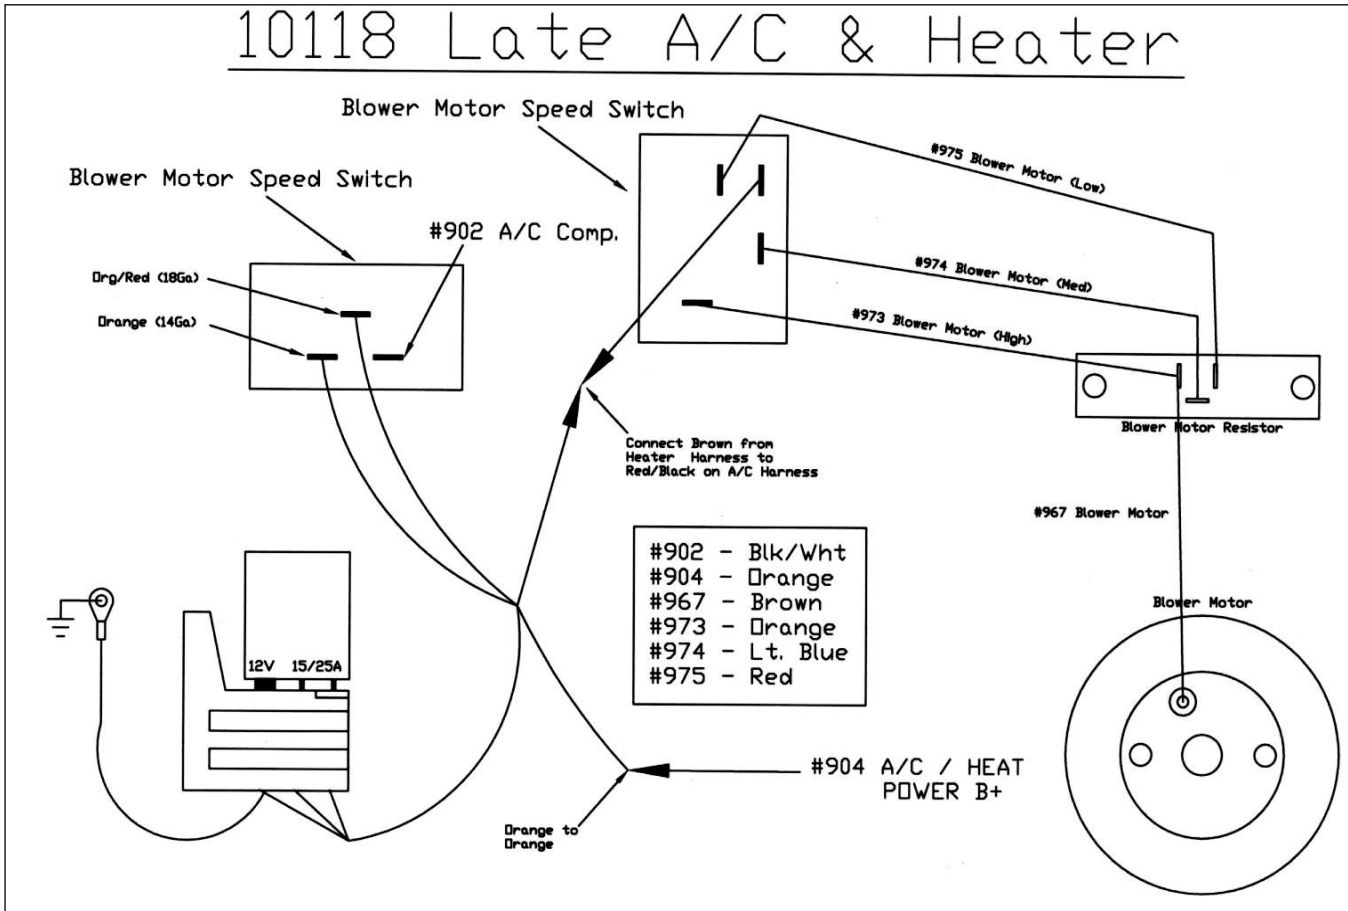

Figure 7-31 A/C - Heater Harness Installation for 1973-1977 years only
7.14.3 For all 1973-1977 Ford Trucks with a factory Heater and Air Conditioning, locate the Heater Harness and A/C Relay Harness in the parts kit and install as shown below in **Figure 7-31**.